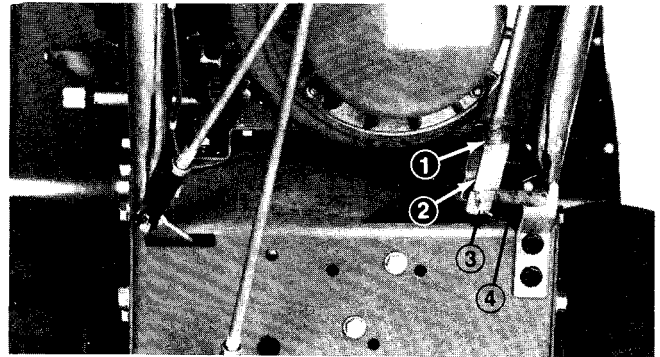

Figure 33
1. Loosen jam nut from clevis at bottom of auger drive control rod (Fig. 33). Next, remove cotter pin and clevis pin holding clevis to bent rod (Fig. 33).
2. Rotate clevis (Fig. 33) counterclockwise — out — to increase belt tension. By contrast, rotate clevis clockwise — in — to decrease belt tension.
3. Connect clevis to bent rod with clevis pin and cotter pin (Fig. 33). Next, tighten jam nut against top of clevis (Fig. 33).